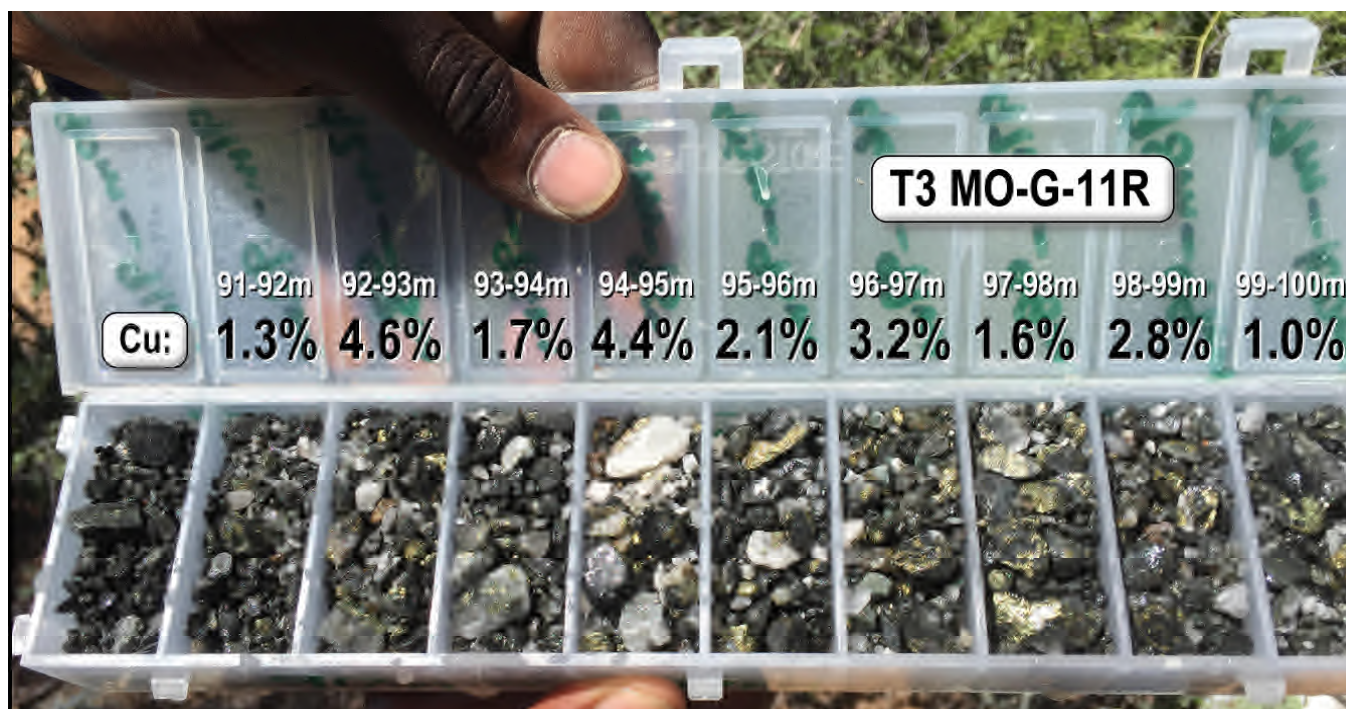

Figure 1: 1m samples from RC drill hole MO-G-11R showing visible chalcopyrite and Cu assays for each 1m sample (Refer Appendix 1)
- Second drill hole at T3 (MO-G-11R) intersected 14m @ 1.97% Cu from 86m down hole depth, including 7m @ 2.9% Cu from 92m down hole depth (Figures 1 & 2)
- **12m @ 0.76% Cu from 69m** down hole depth (Figures 1 and 2)